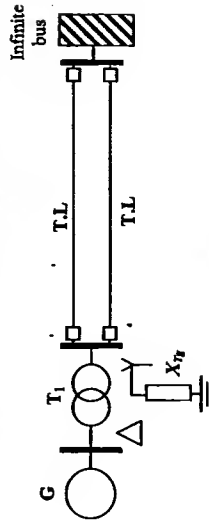

Fig. 5
5. Consider the system shown in Figure 5. Using the equal area criterion, discuss whether the transformer neutral reactance X_{T_n} improves or degrades the system transient stability.